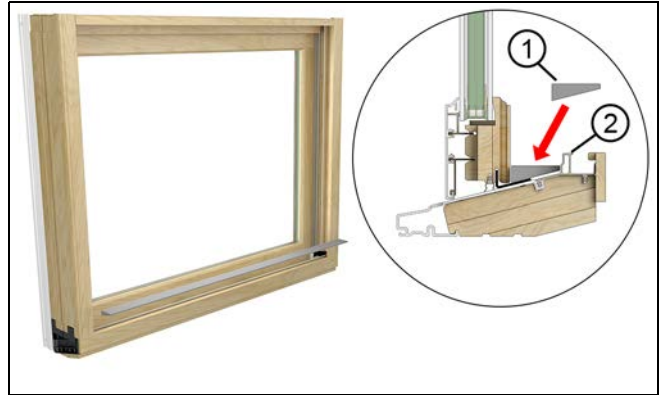

Figure 72
3. Fit the foam sill filler block between the sash and the sill thermal break, note the angle of the foam block matches the angle of the sill. See Figure 72.